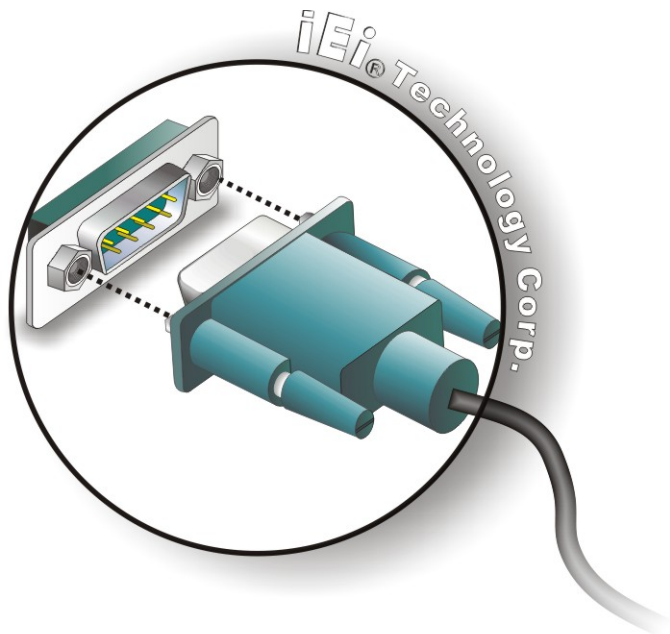

Figure 5-16: Serial Device Connector
Step 2: **Insert the serial connector.** Insert the DB-9 connector of a serial device into the DB-9 connector on the external peripheral interface. See Figure 5-16.